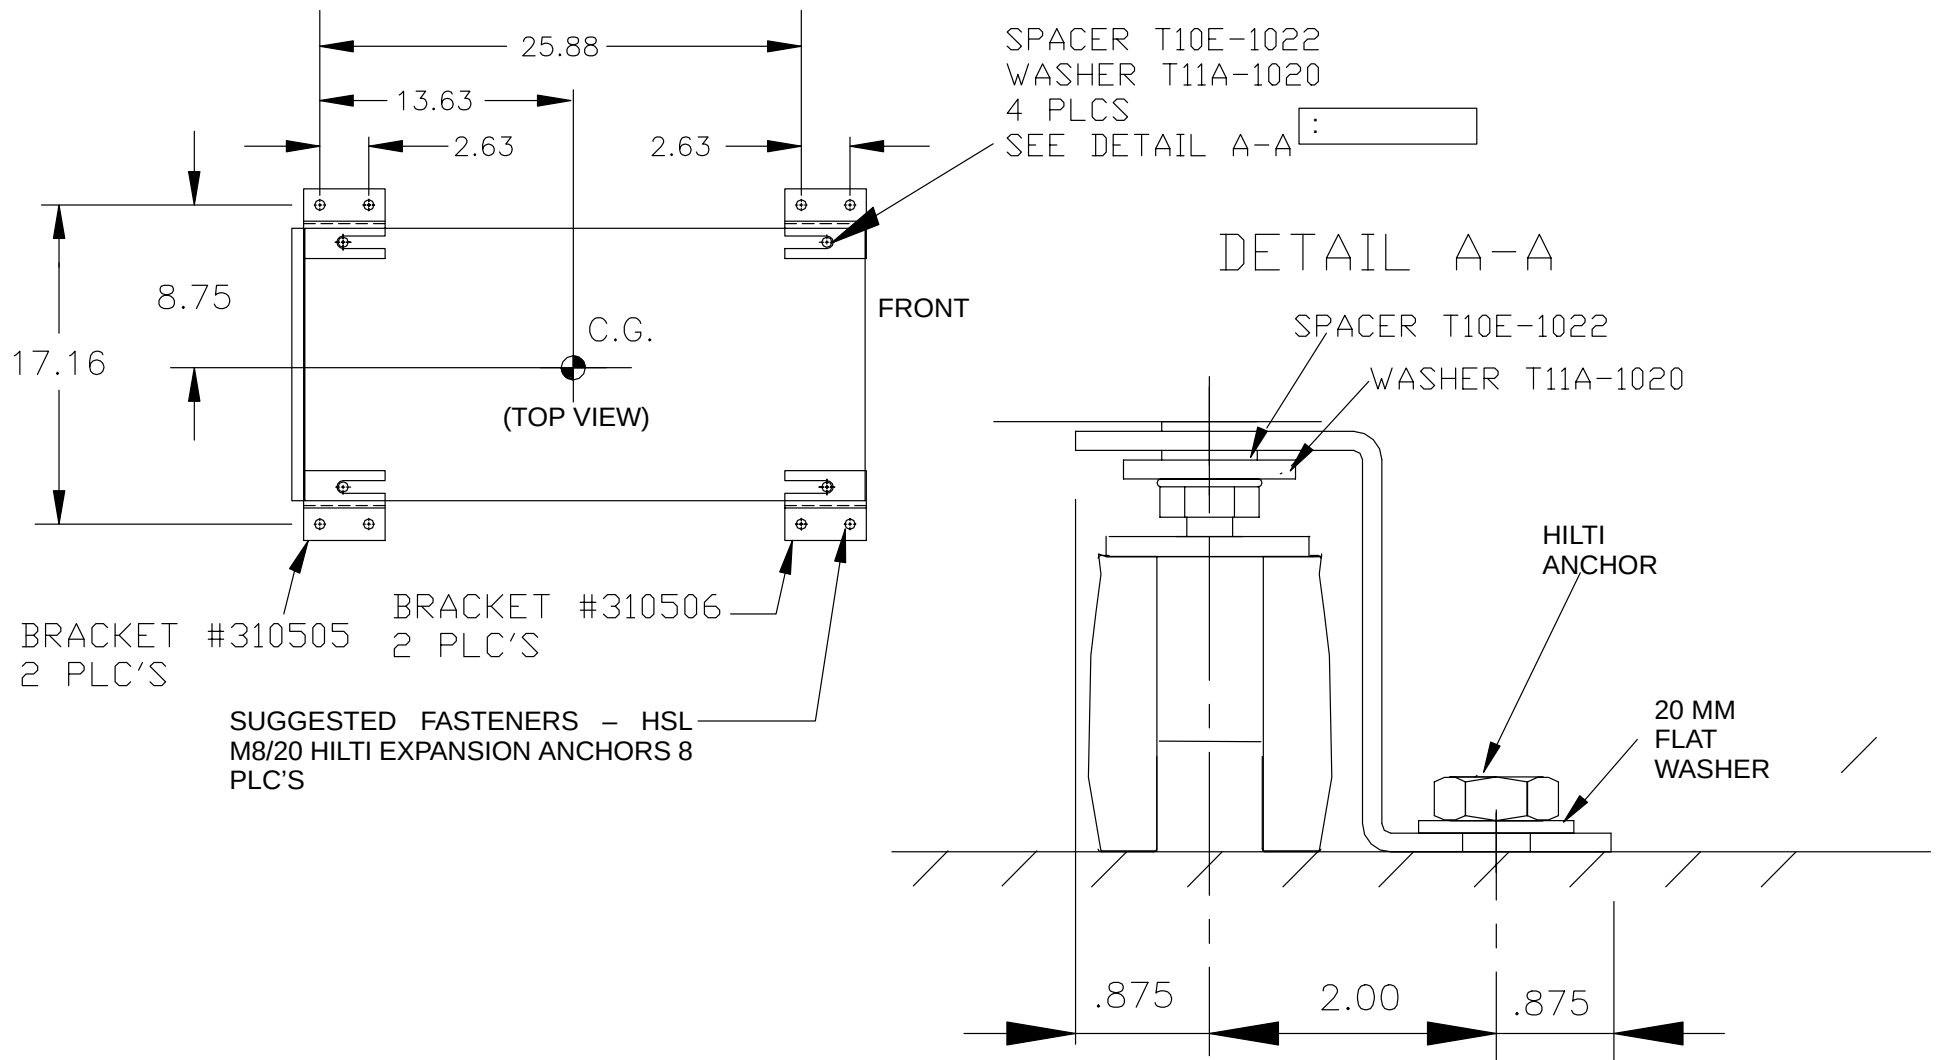

FIGURE 30 SEISMIC BRACKET – ACQIMAGE CABINET
6. Repeat this procedure for the AcQImage cabinet. Refer to Figure 30.